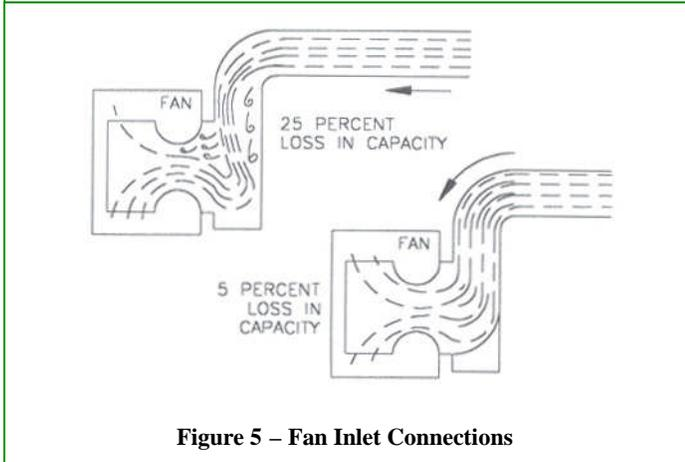

Figure 5 – Fan Inlet Connections
**Look for system effect.** Sharp changes in the direction of airflow at either the fan inlet or outlet will disrupt the flow through the fan and impair performance. If it is impossible to straighten the ductwork entering and leaving the fan, the use of inlet boxes and turning vanes can minimize performance losses as shown in Figure 5. For a more detailed explanation, refer to Engineering Letter 5, Fan Performance - The System Effect.